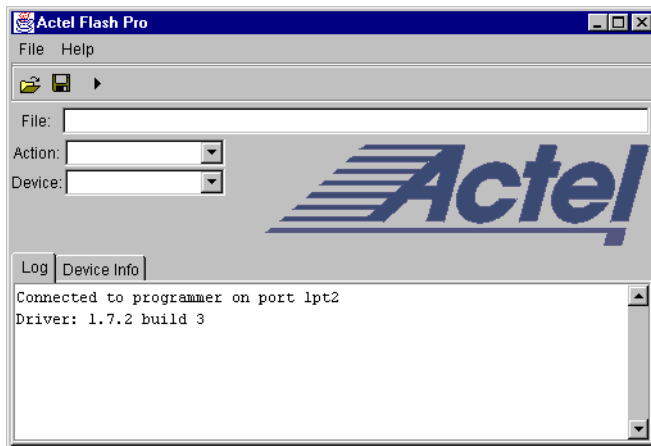

Figure 2-2. Flash Pro: Successful Connection
5. **Click *Connect*.** A successful connect or any errors appears in the Log window, as shown in Figure 2-2. If you encounter failures, please refer to “Error Messages & Trouble Shooting Tips” on page 41.